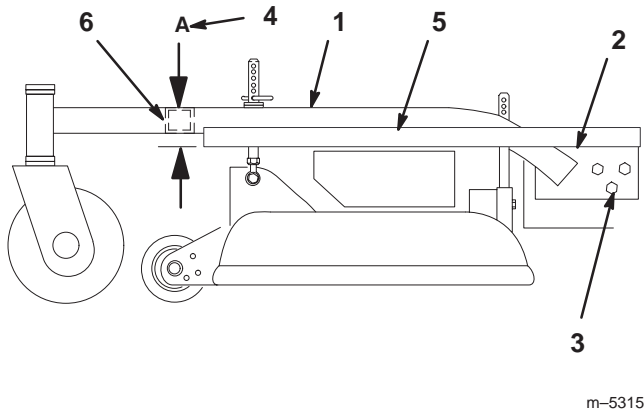

Figure 48
2. Place a long straight edge on top of the engine deck as shown in figure 48.
3. At the carrier frame cross tube, measure location **A** height (Fig. 48). This measurement must be 2–13/16 in. (71 mm), plus or minus a 1/4 in. (6 mm).
5. Loosen the carrier frame mounting bolts on both sides of the machine (Fig. 48).
6. Align the carrier frame and engine deck to match 2–13/16 in. (71 mm), plus or minus a 1/4 in. (6 mm) at location **A** (Fig. 48).
7. Tighten the carrier frame mounting bolts on both sides of the machine (Fig. 48).